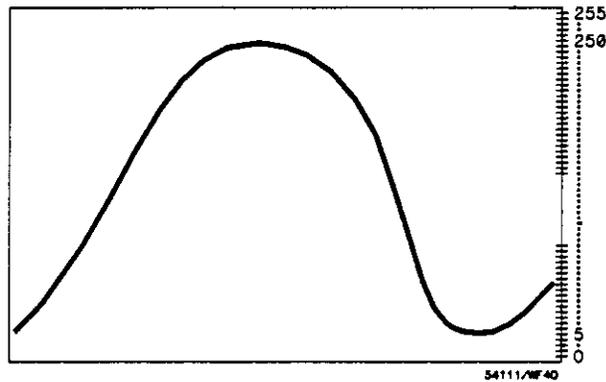

Figure A-1. Data is transferred as quantization levels
**Data Format** Data is transmitted from the HP 54111D as quantization-level information (figure A-1). The corresponding time value for a particular quantization level is not transmitted, but it can be calculated because the quantization levels are transmitted in order starting at the beginning of the record. Voltage/time pairs can be calculated as shown in figure A-1.